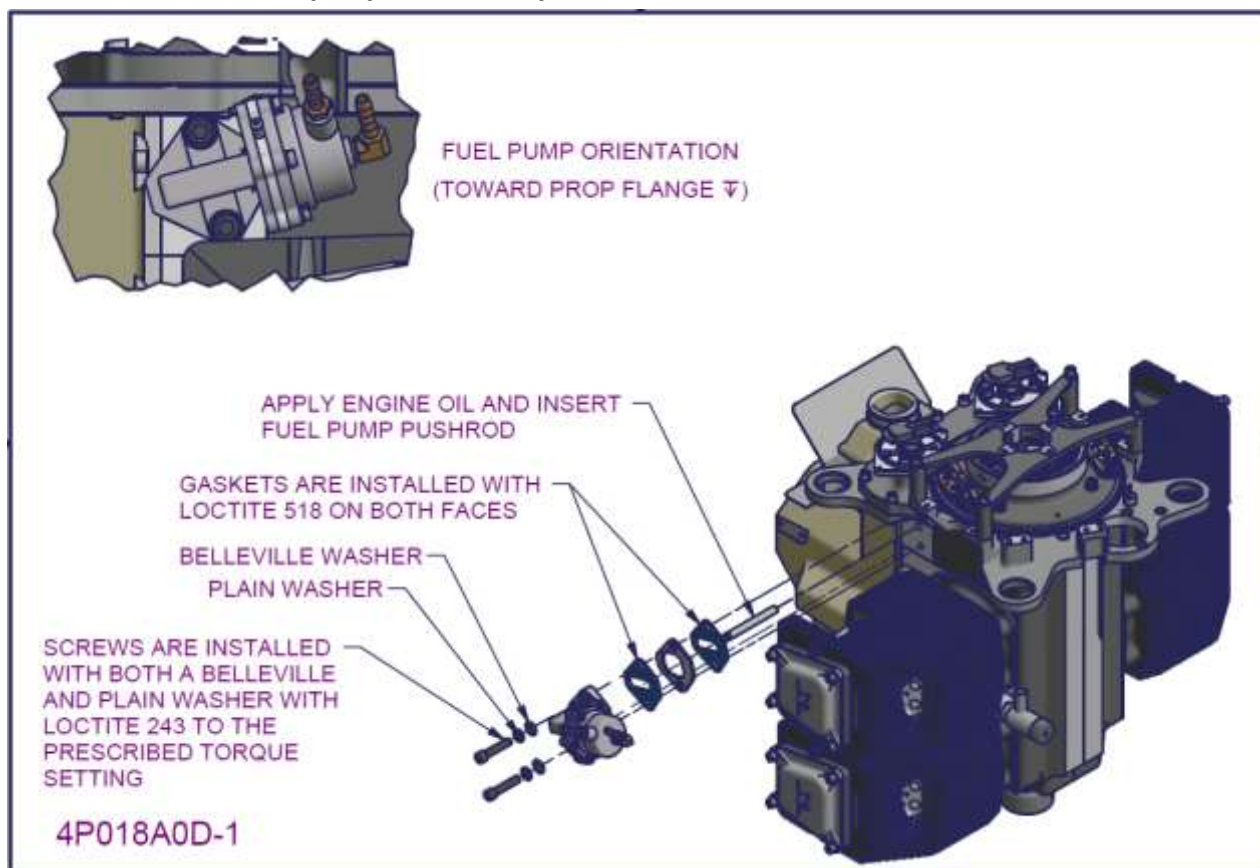

Figure 162 – 2200/3300 Fuel pump installation 1
- Install the fuel pump with the two gaskets and white spacer in the order shown in Figure 162.